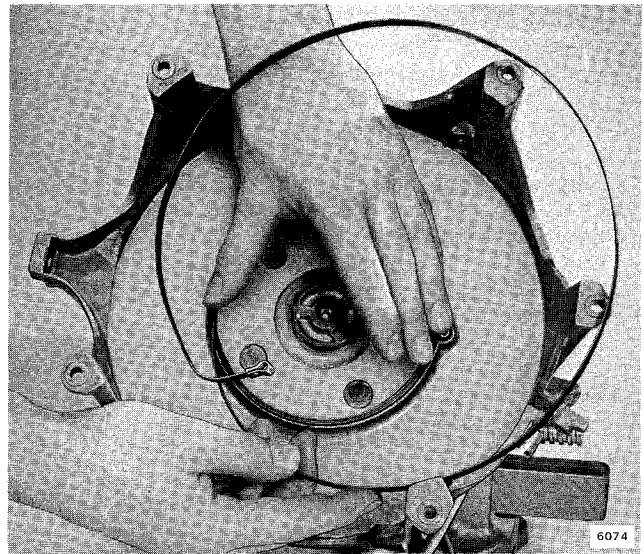

Figure 8-5. Coiling Spring into Housing
- a. Place housing end of spring loop over anchor pin in housing. Carefully coil spring into housing. See Figure 8-5.